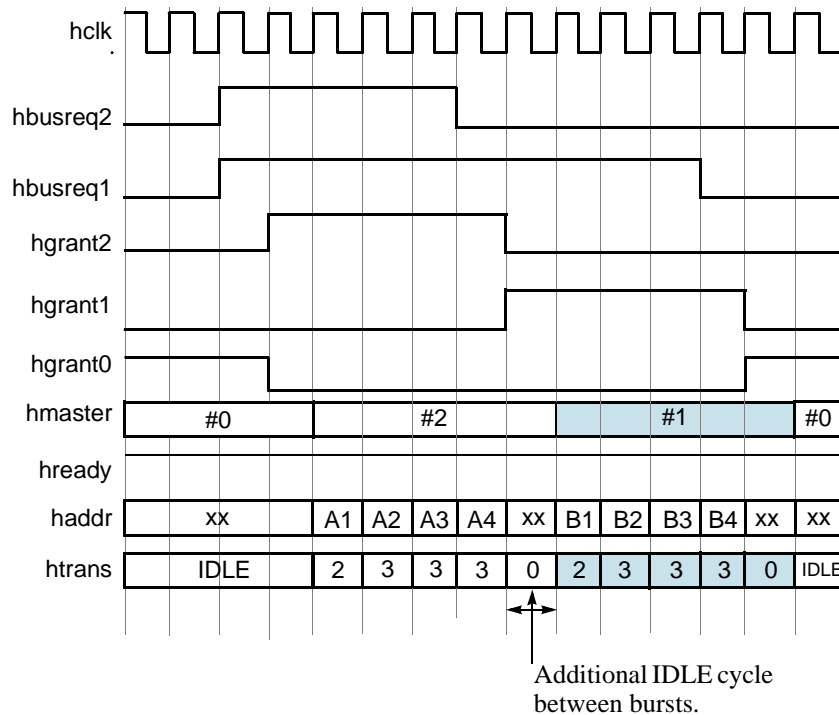

Figure 6: Bursts with Unspecified Length and Different Priority Level
Figure 6 shows the timing for bursts of an unspecified length from masters with different priority levels. The highest priority wins ownership of the bus each time. There is an additional IDLE cycle between bursts, because the request line has to be held until the last transfer has started.
- Bursts with unspecified length and different priority levels (Figure 6 on page 31)